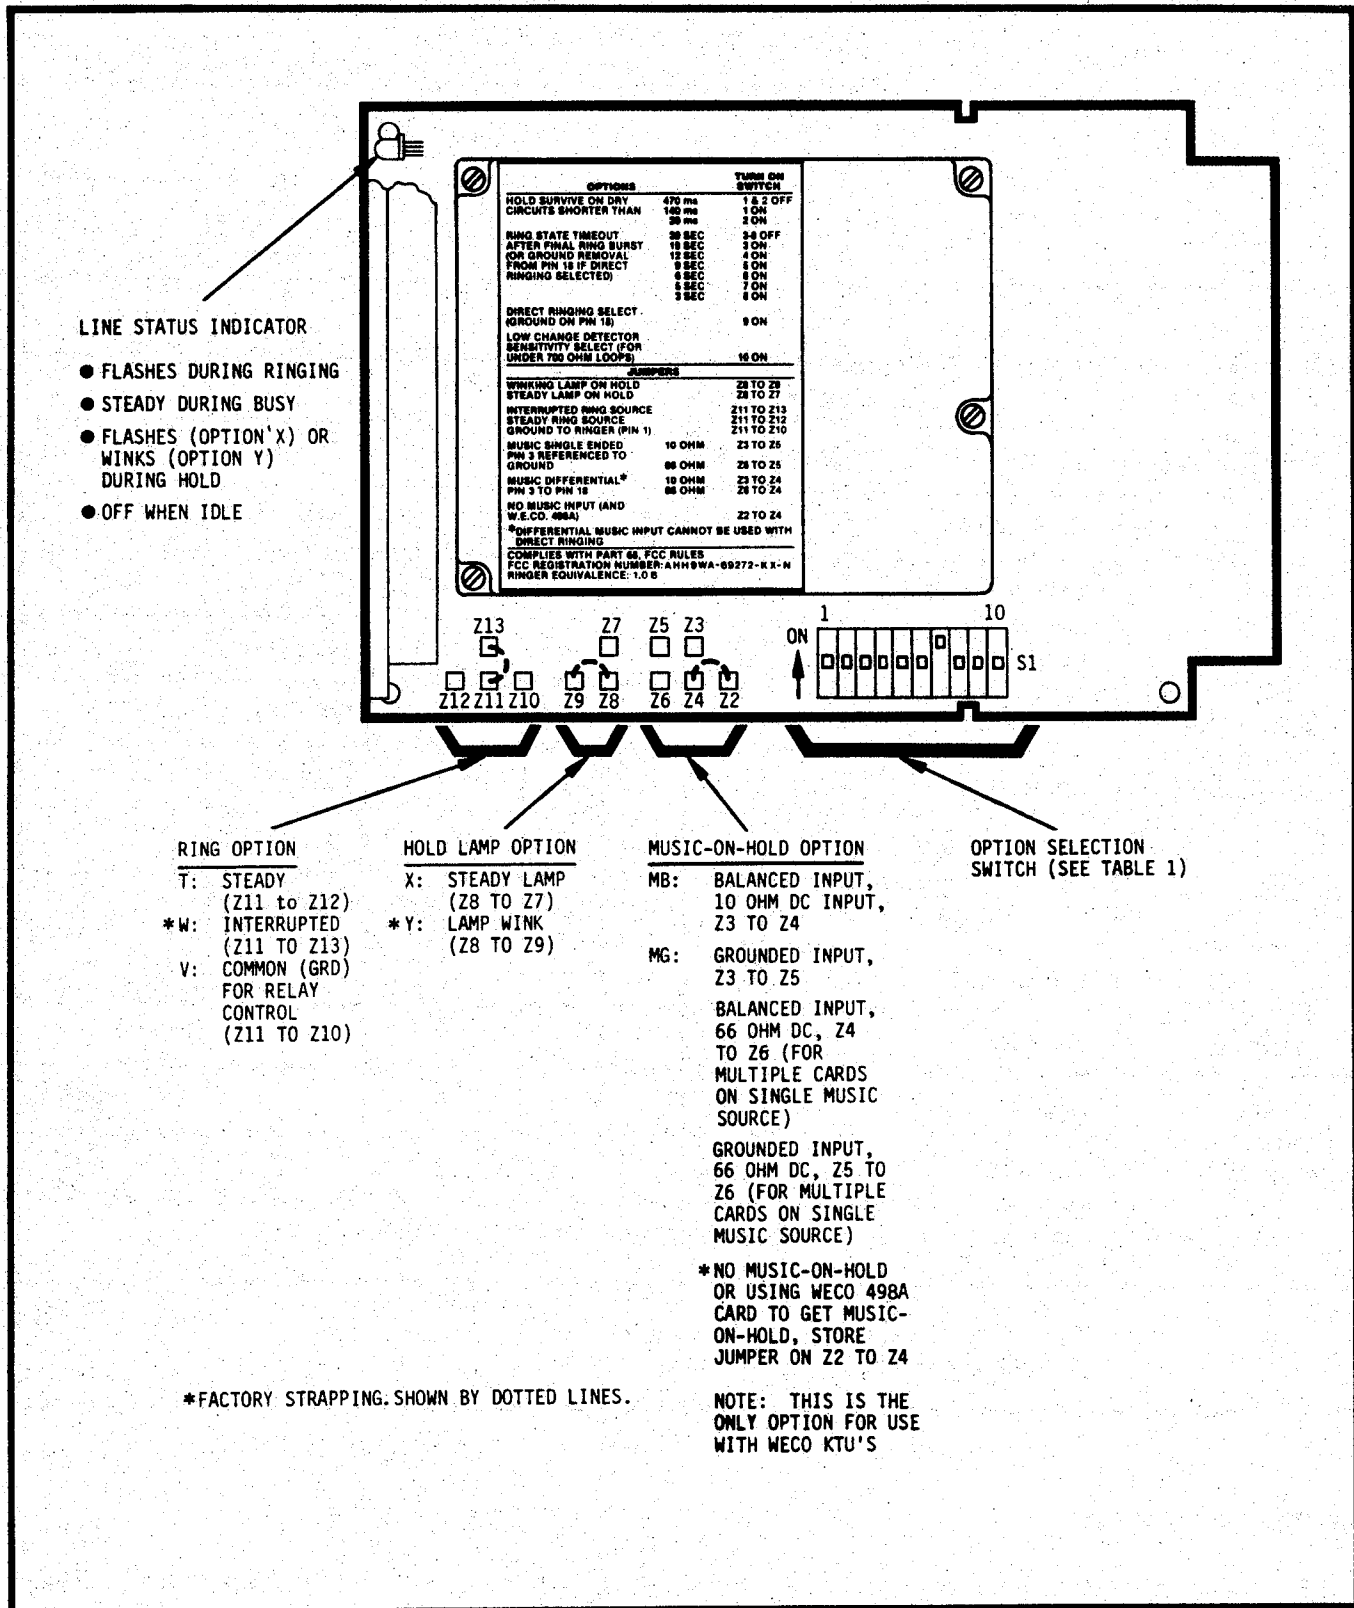

Figure 4 Option Strapping
**3.04** The M-487 can be strapped for either a balanced or a single-ended music source with either 10 ohms or 66 ohms of D.C. resistance (see Figure 4). A balanced music source cannot be used in an application using direct ringing. The M-487 is compatible with the WEC0 498A music-on-hold function.
(1) Remove the M-487 from its shipping container and look for evidence of damage. Do not install a unit that appears to be damaged.
(2) If the factory option switch and strapping settings are not the desired ones, select the desired options. Refer to Table 3 for switch settings and Figure 4 for strapping. Factory settings are: